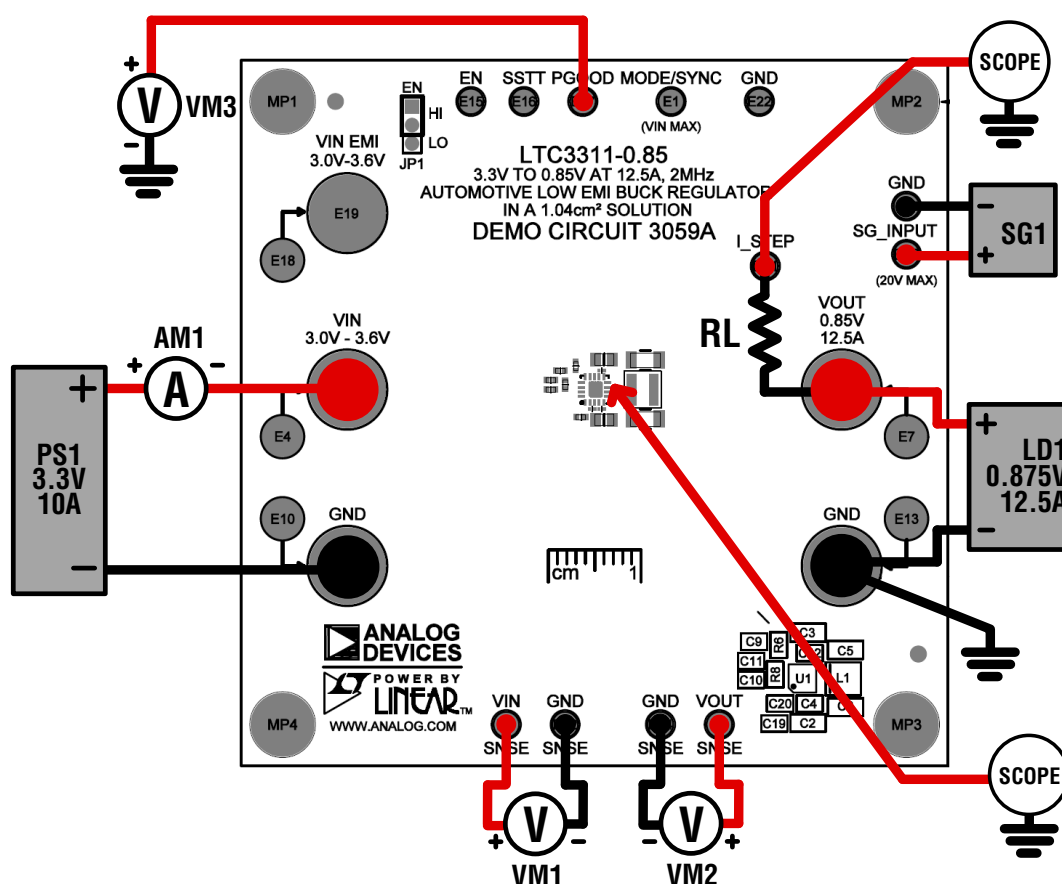

Figure 2. Test Setup for DC3059A Demo Board
Refer to Figure 2 for the proper measurement equipment setup and follow the procedure below:
NOTE: For accurate V_{IN} , V_{OUT} and efficiency measurements, measure V_{IN} at the VIN SNSE and GND SNSN turrets, and measure V_{OUT} at the VOUT SNSE and GND SNSE turrets as illustrated as VM1 and VM2 in Figure 2. When measuring the input or output ripple, care must be taken to avoid a long ground lead on the oscilloscope probe.
- To test the transient response with a base load, add the desired resistor to produce a minimum load between VOUT and I_STEP turrets (RL shown on Figure 2). Note that the total load resistance will be RL plus R10